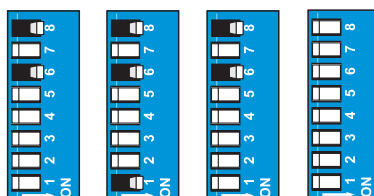

Fig. 4.1.2
2. Place dip-switch 8 and subsequently dip-switch 1 in their **ON** positions, as shown in Figure 4.1.2.